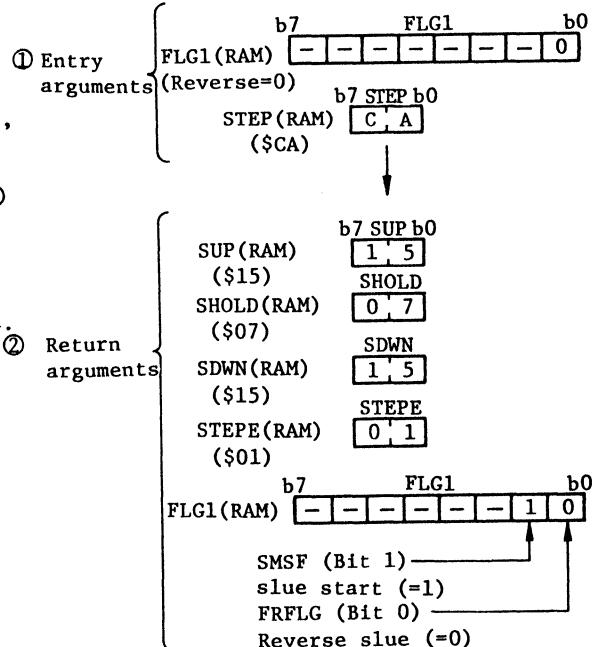

Fig. 6 Example of SMCLC Execution
- (b) Fig. 6 shows an example of program module SMCLC execution. If entry arguments are held as shown in part ① of Fig. 6, the remainders of slow-up, operating, and slow-down are contained as shown in part ② of Fig. 6.